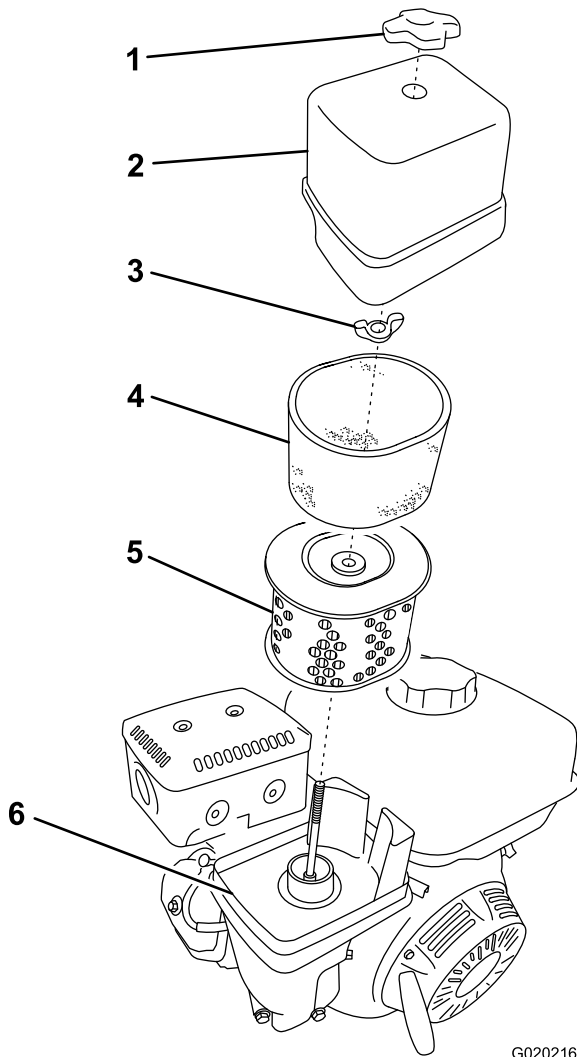

Figure 44
3. Remove the nut that secures the cover (Figure 44).
5. Remove the foam and paper elements from the base (Figure 44).
6. Remove the foam element from the paper element (Figure 44).